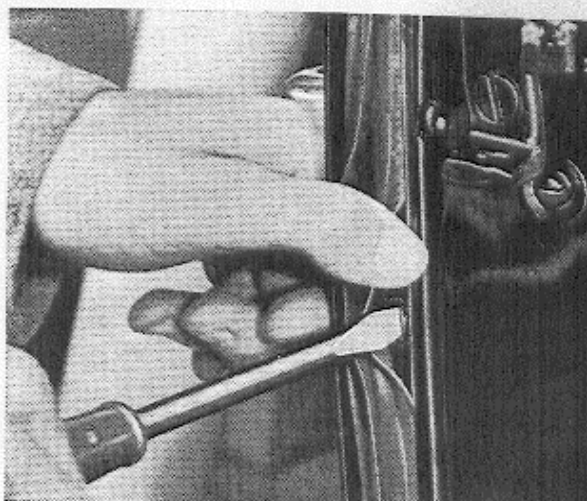

Fig. 37. Removing the door lock
4. Loosen the screw holding the lock cylinder and pull it out together with the lock unit. This screw is accessible under the rubber weatherstrip as shown in Fig. 37.